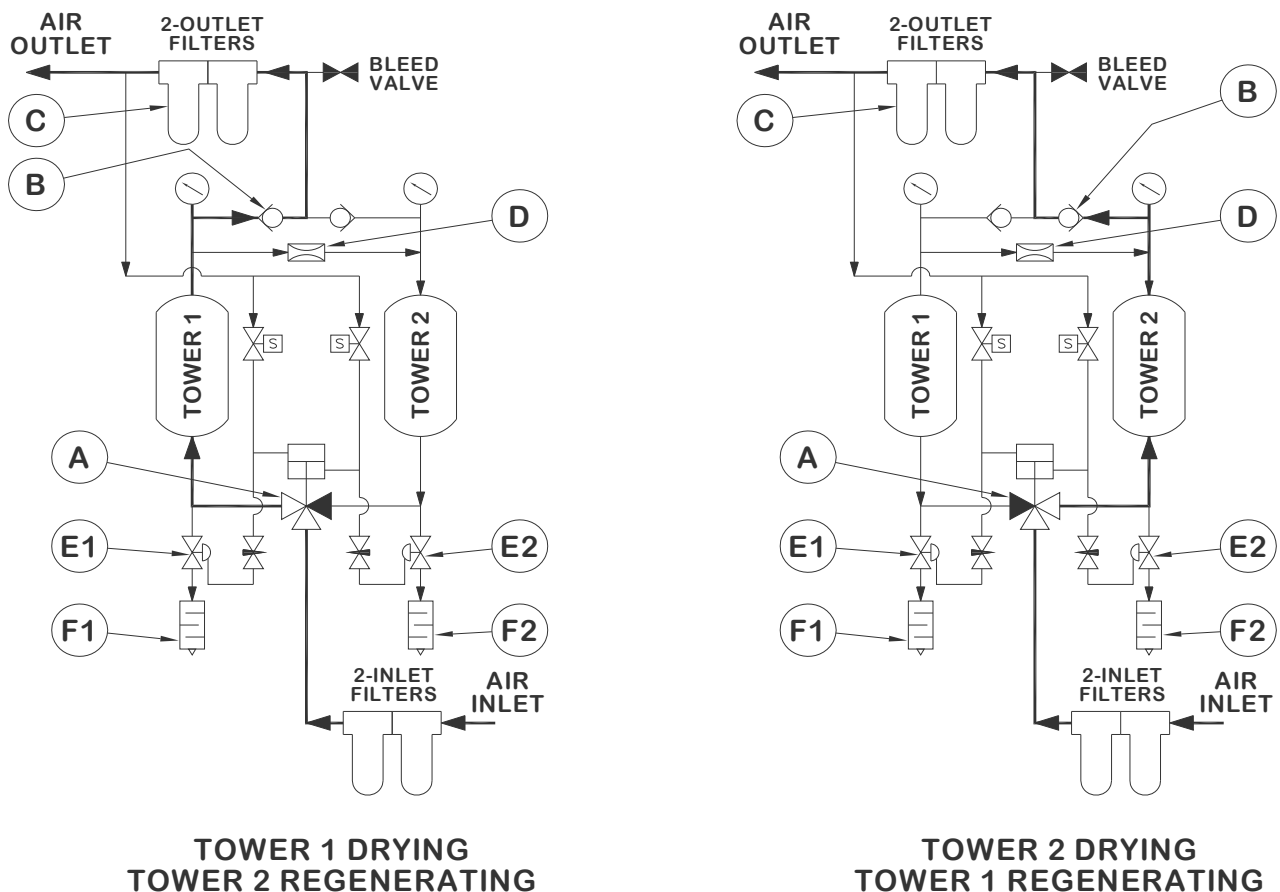

FIG. D.3 CD100 - 300 Flow Schematic
D.3 Basic Dryer Operation CD100 - 300 (See Fig. D.3)